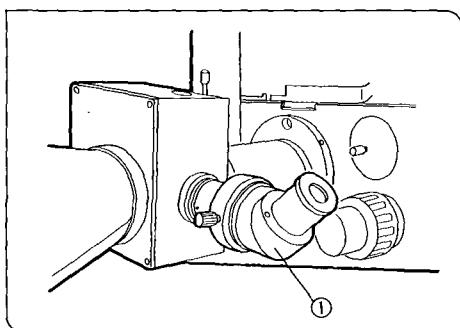

Fig. 109
- Since it will be difficult to use the standard focusing telescope of the camera unit when attached to the side port, it is recommended to use a V-shaped focusing telescope (U-FTV) ①. (Fig. 109)
- Slide the top portion of the U-FTV ① up and down until the photo mask is brought into focus. (Fig. 109)